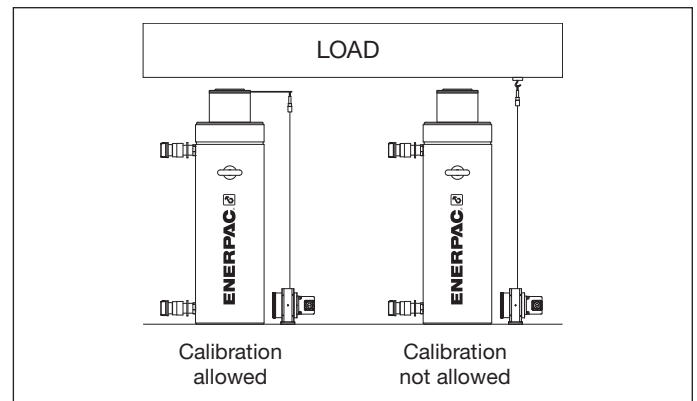

Figure 20, Calibration conditions
2. Cylinder calibration selection: The user must set if the calibration is going to be carried out or not, depending on the type of cylinder used. Refer to Figure 20 for details.